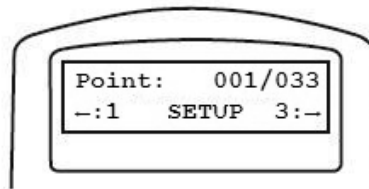

Fig. 33
- By pressing the **2** key, you will be shooting the exposures manually. The mount will prompt you to start the alignment. When you do, the mount will slew to the first picture position. The display will be similar to that in **Fig. 33**, which displays Picture Position 1 of 33. You would then take the picture using the camera's shutter release button. Press **3** on the hand control to slew to the next picture position and manually take the image. Continue this process until all images have been taken. At any time, if you want to go back and reshoot any of the picture points, you can press **1** to go through the points in reverse.